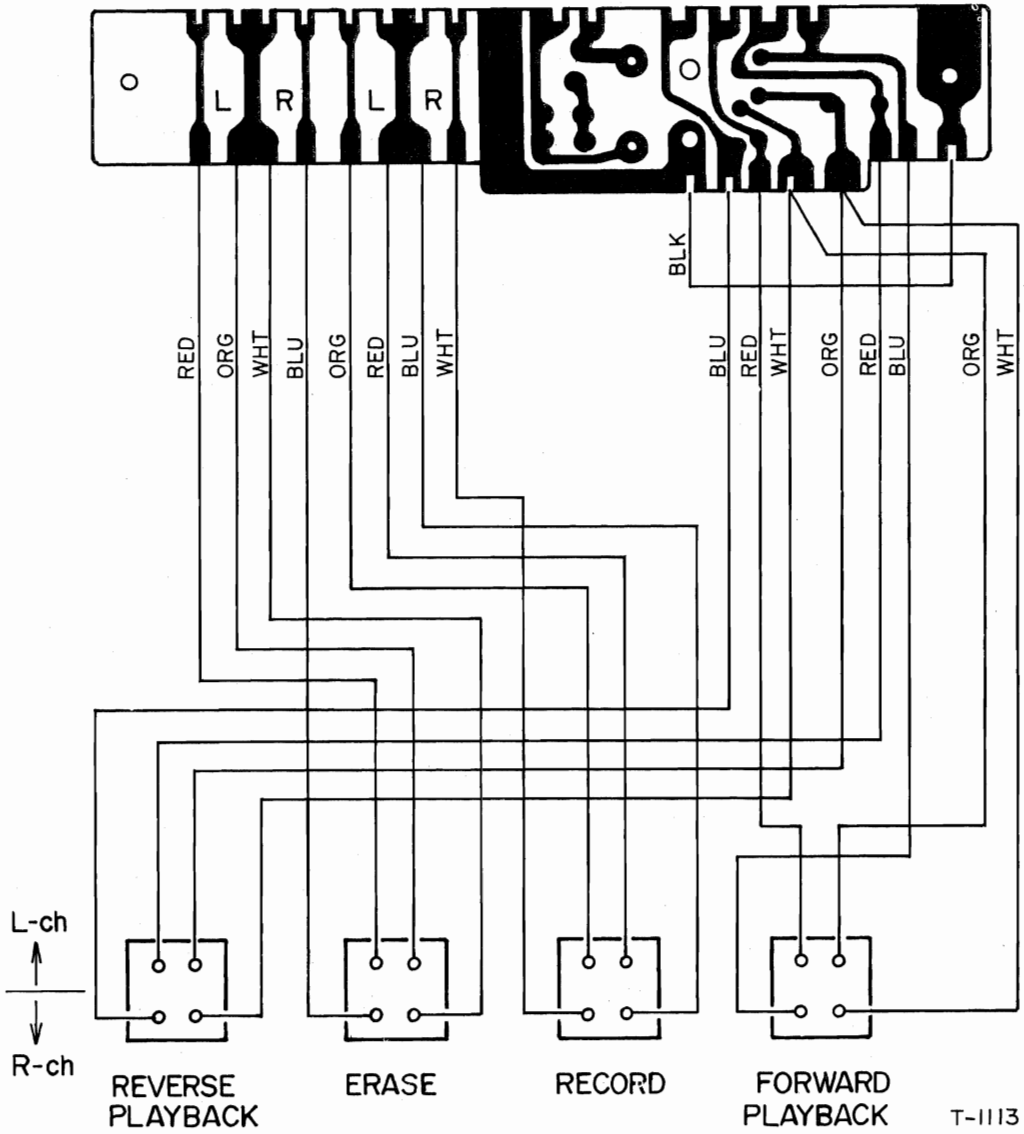

Fig. 6-4 Head wiring
3. Remove 2 mounting nuts through access slot in head base plate and dis-connect head wires. See Fig. 6-4.